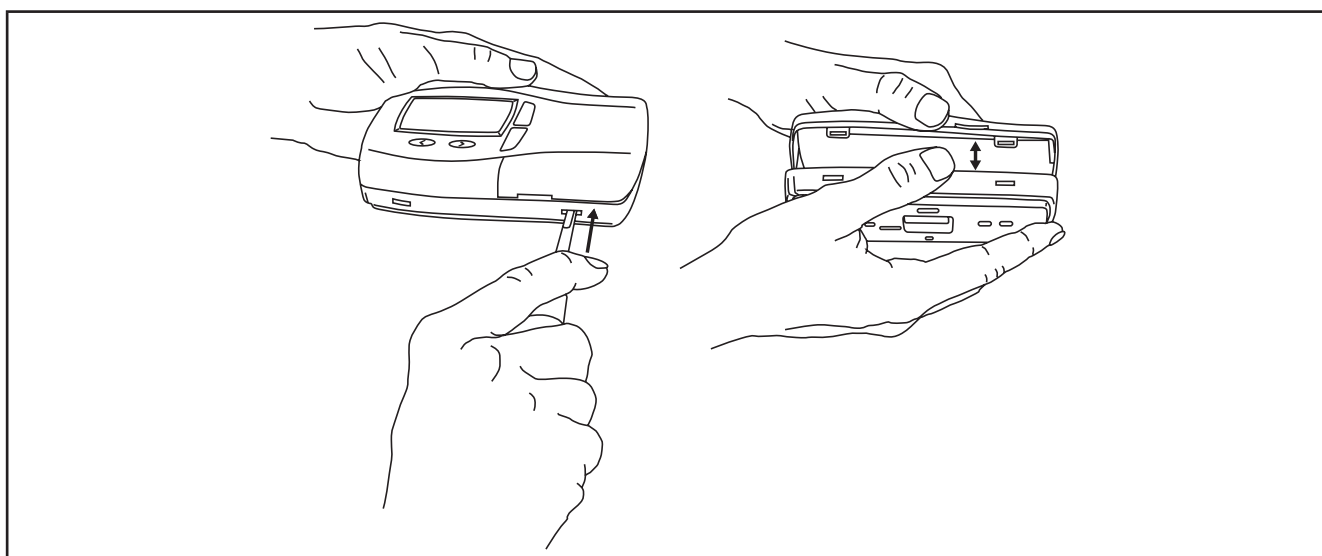

Fig. 11. Opening
3. Levering it with a screwdriver or similar tool (see **Fig. 11 on pag. 22**).